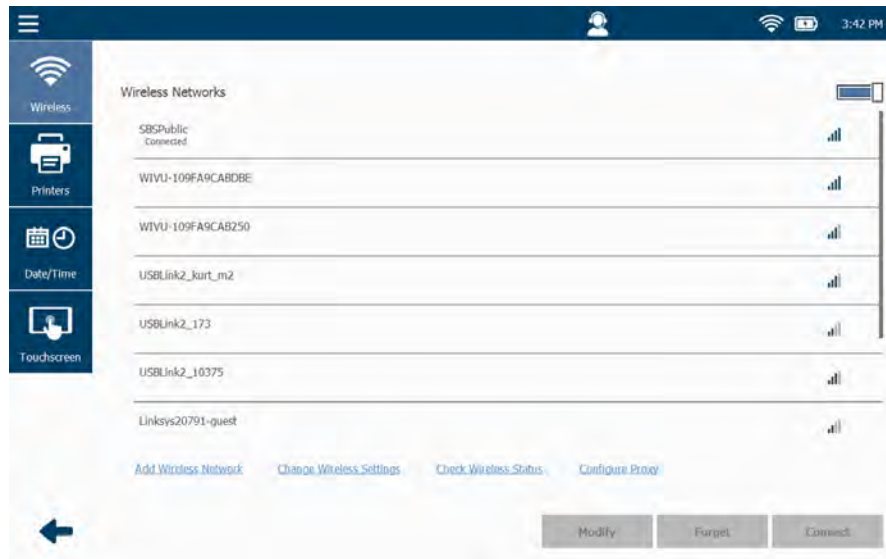

Figure 6.8 *Wireless Networks*
- 1 Select **Check Wireless Status** from the Wireless Networks screen (Figure 6.8).
- 2 Touch the **Back Arrow** at the bottom of the screen to return to the Wireless Networks screen (Figure 6.8).
- 1 Select **Configure Proxy** from the Wireless Networks screen (Figure 6.8).